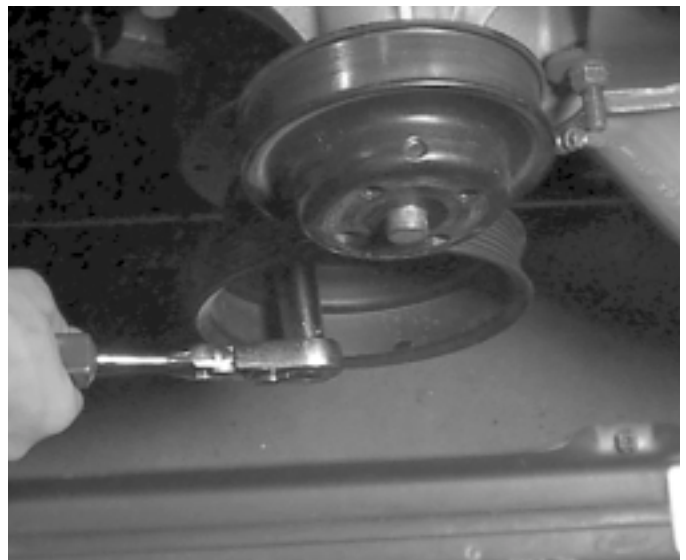

Fig. 2-h
- Y. Remove the four factory crank pulley bolts with a 9/16" socket and extension and remove the pulley from the vehicle. (See *Fig. 2-h*.)